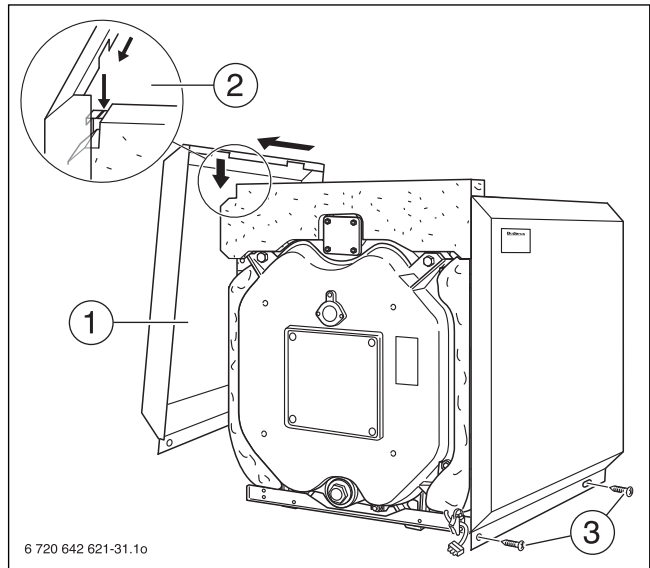

Fig. 37 Fitting the side panels
- ▶ Attach side panel (Fig. 37, [1]) with the cut-outs into the slots of the top connection plates (Fig. 37, [2]) and push forwards as far as it will go.
- ▶ Screw the side panels at the bottom to the bottom profile rails using two self-tapping screws in each case (Fig. 37, [3]).